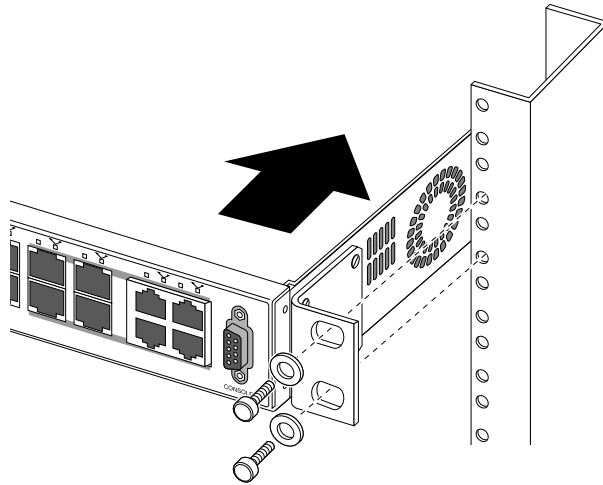

Figure 211: Installing a Switch in a Rack
- 5 Slide the switch into the rack (see Figure 211: Installing a Switch in a Rack on page 246).